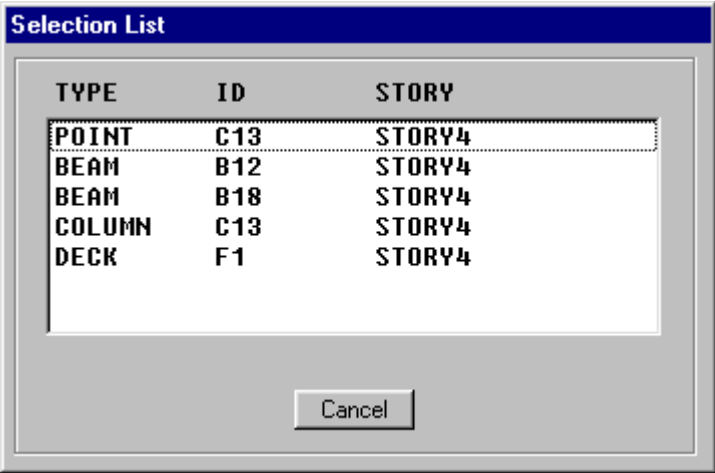

Figure 6-1 Selection List Form
- **Control and Left Click:** Hold down the Ctrl key on the keyboard and left click once on a point, line or area object. A Selection List form similar to the one shown in Figure 6-1 pops up identifying the objects that exist at that location. Select the desired object by moving the mouse pointer over it and left clicking on it.